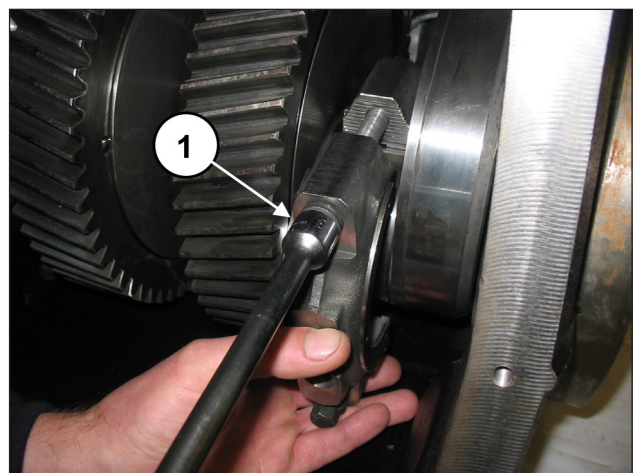

Fig. 84
Fasten the caps to the half supports by means of M12x1.25x87 screws (pos. ①, Fig. 84).